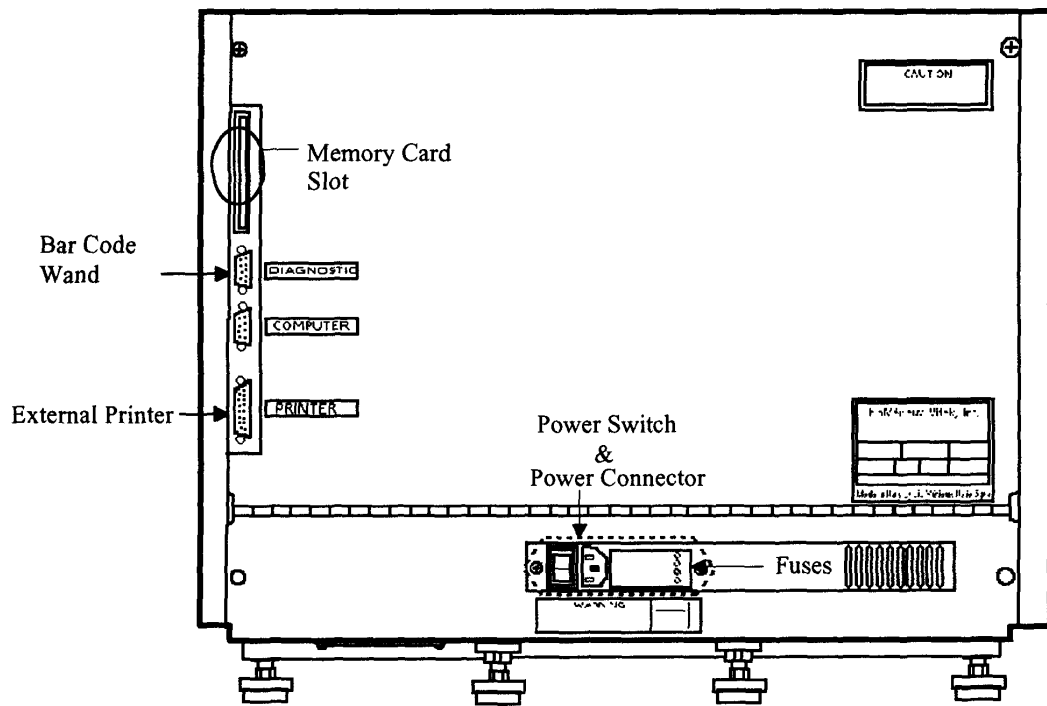

Figure 2-2 Power Switch
- ◆ Reach behind the instrument and turn the power switch ON (see Figure 2-2). The mini VIDAS will go through a power up and self-test sequence, this involves the following: